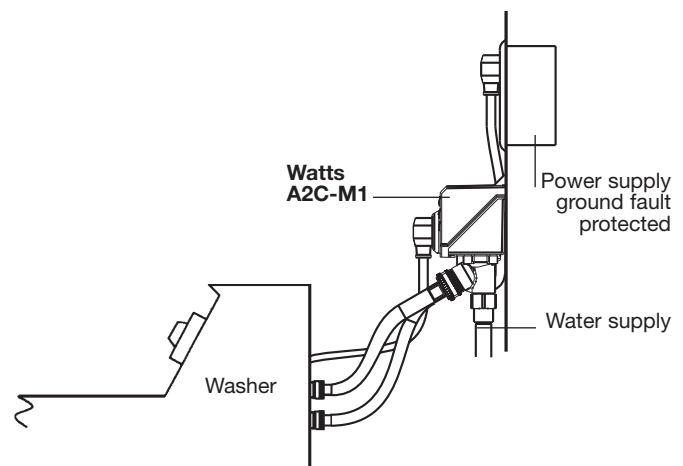

Figure 4
11. Plug the IntelliFlow™'s power cord into a house electrical receptacle (Figure 4).